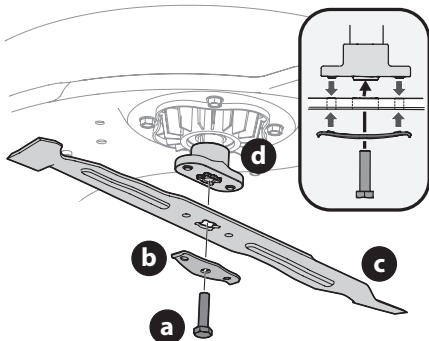

Figure 25
- Remove the hex screw (a) and the blade bell support (b) which holds the blade (c) and the blade adapter (d) to the deck motor (Figure 25).
4. Remove blade (c) and adapter (d) from the deck motor spindle (Figure 25 on page 22).